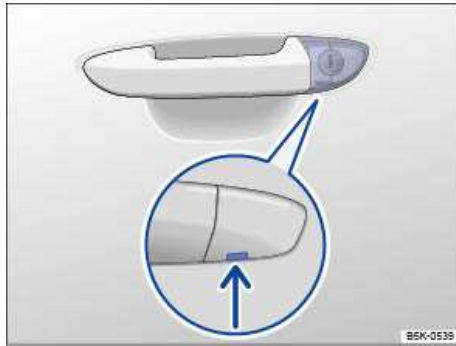

Fig. 160 Door handle on driver door: Concealed lock cylinder (if applicable).
- If the vehicle has a concealed lock cylinder, insert the key bit from below into the opening of the cover cap on the driver door ⇒ fig. 160 (arrow) and lift the cover cap off. Grasping the door handle and pulling slightly makes it easier to remove the cap.